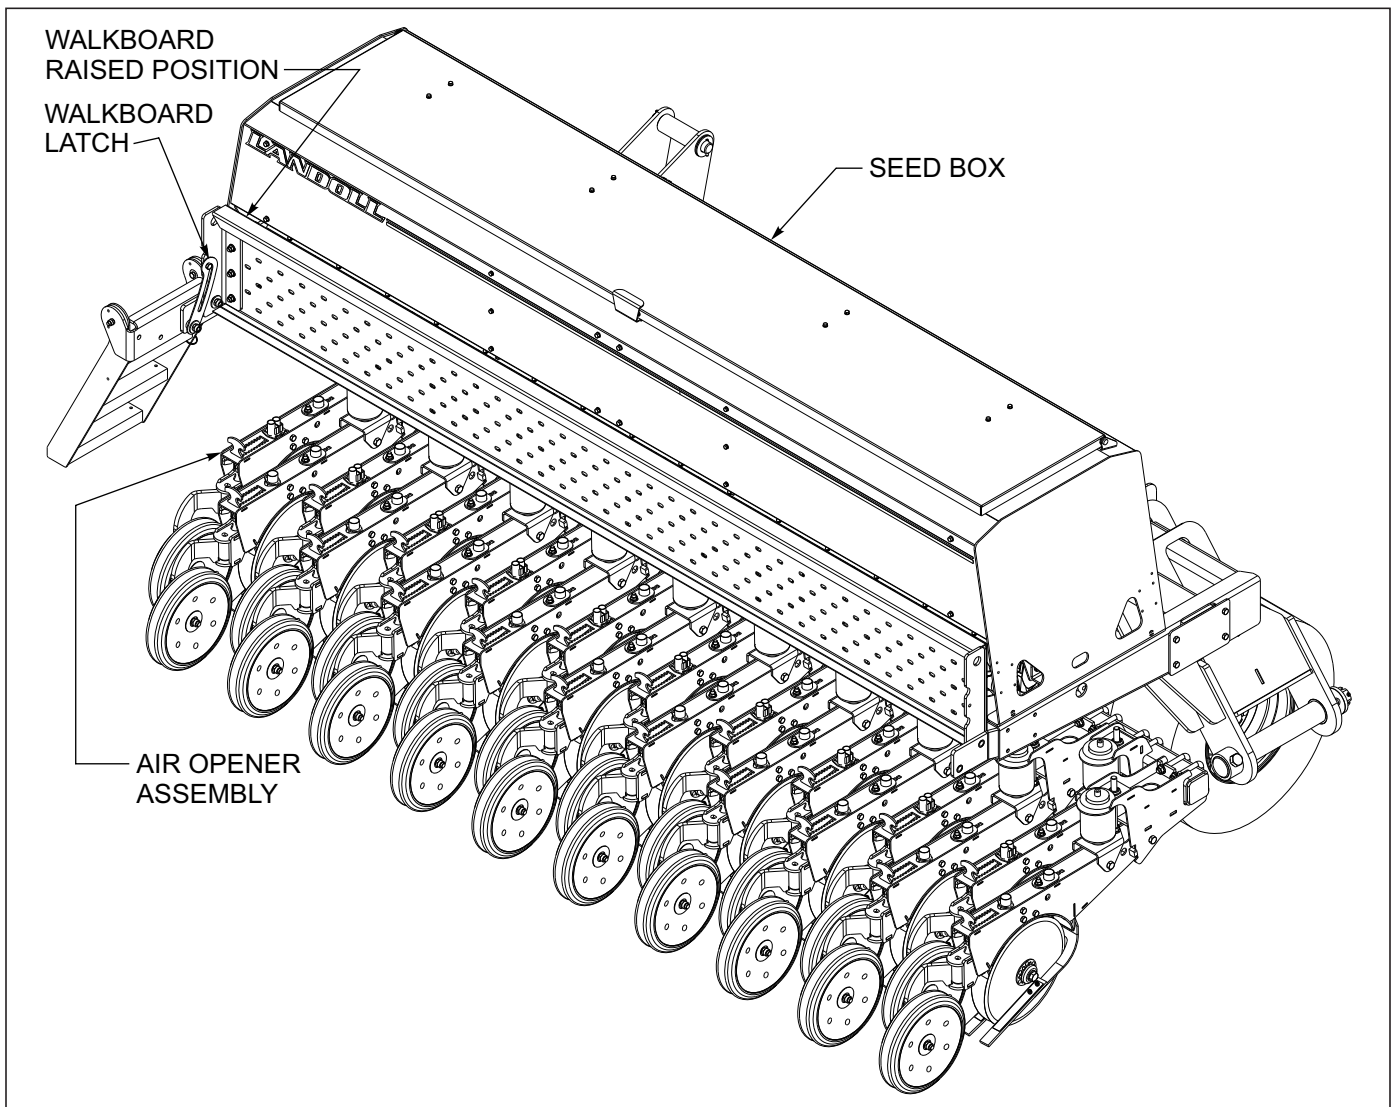

Figure 4-30: Walkboard Raised Position
1. The walkboard on the Grain Drill provides a stable platform to work from while filling the seed box (See Figure 4-30.)